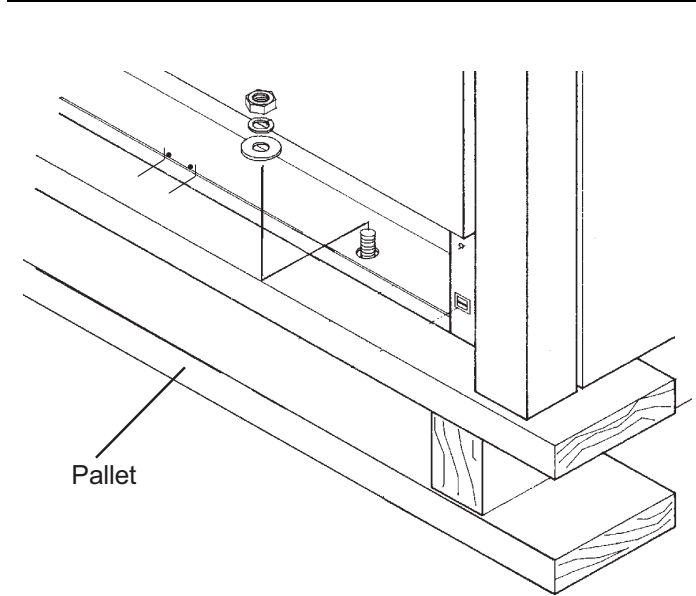

Figure 4: Removal of the Four (4) Shipping Bolts
- Remove the outer carton and packing material from the shipping base. The dual fuel ranges are held to the pallet by four (4) bolts (see Figure 4). After removing